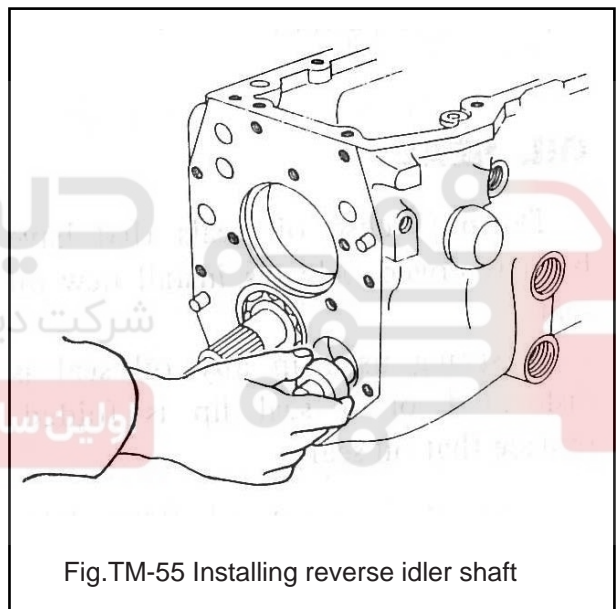

Fig.TM-55 Installing reverse idler shaft
- 2.Place reverse idler gears, two thrust washers and two kinds of needle bearing in their positions on transmission case, and insert reverse idler shaft into reverse idler gear through the rear side of transmission case hole. See Figure TM-55.